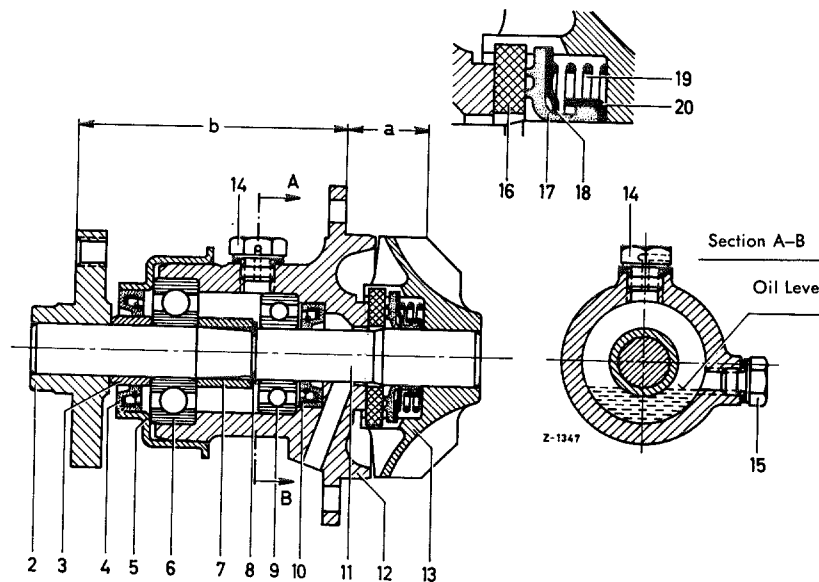

Fig. 20-5/1
The vent hole in cap screw (14) (Fig. 20-5/1) has been enlarged to prevent oil losses as a result of insufficient venting of water pump housing. The present standard-type cap screw with a larger vent hole has part No. 127 997 00 30; it can also be added subsequently. If no new cap screw is available, the axial hole of the formerly used cap screw can be drilled from 3 to 6 mm dia. and the cross bore at the hexagon from 1.5 to 2 mm dia.